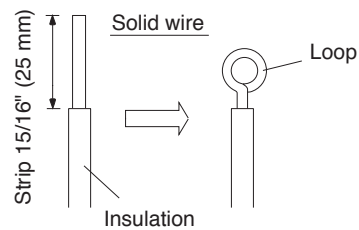

Fig. 29
- (1) Cut the wire end with a cutting pliers, then strip the insulation to expose the solid wire about 15/16" (25 mm). (Fig. 29)
- (2) Using a screwdriver, remove the terminal screw(s) on the terminal plate.
- (3) Using the pliers, bend the solid wire to form a loop suitable for the terminal screw.
- (4) Shape the loop wire properly, place it on the terminal plate and fix it securely with the removed terminal screw using a screwdriver.